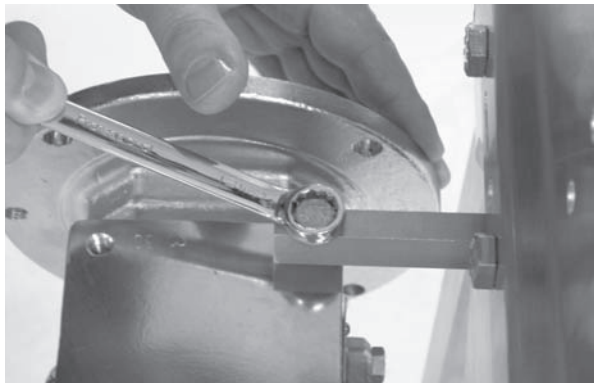

Figure 52
4. Unbolt the drive assembly and slide it off the bearing spindle (**Figure 52**).